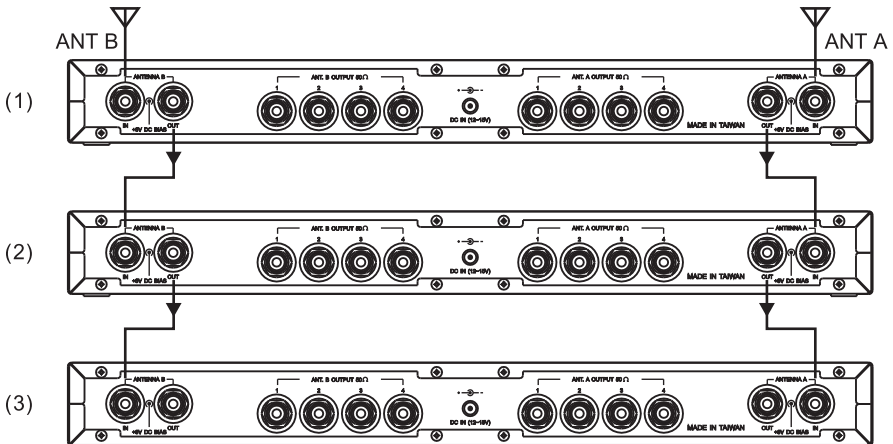

Fig. 3
2. Second Application. Fig. 3: